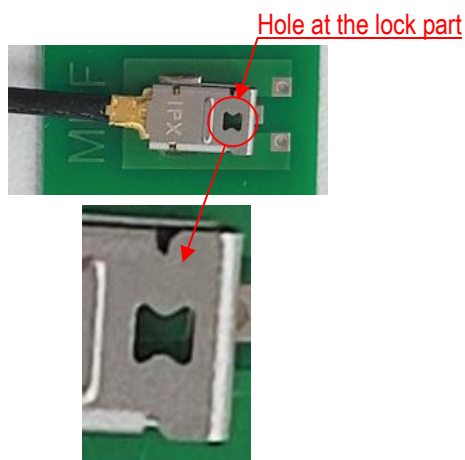

Fig.17 (Unlocked)
- Slide the lock part until the connector passes the far edge of the hole at the lock part as shown in Fig. 17. Do not apply excessive force to slide the lock part.